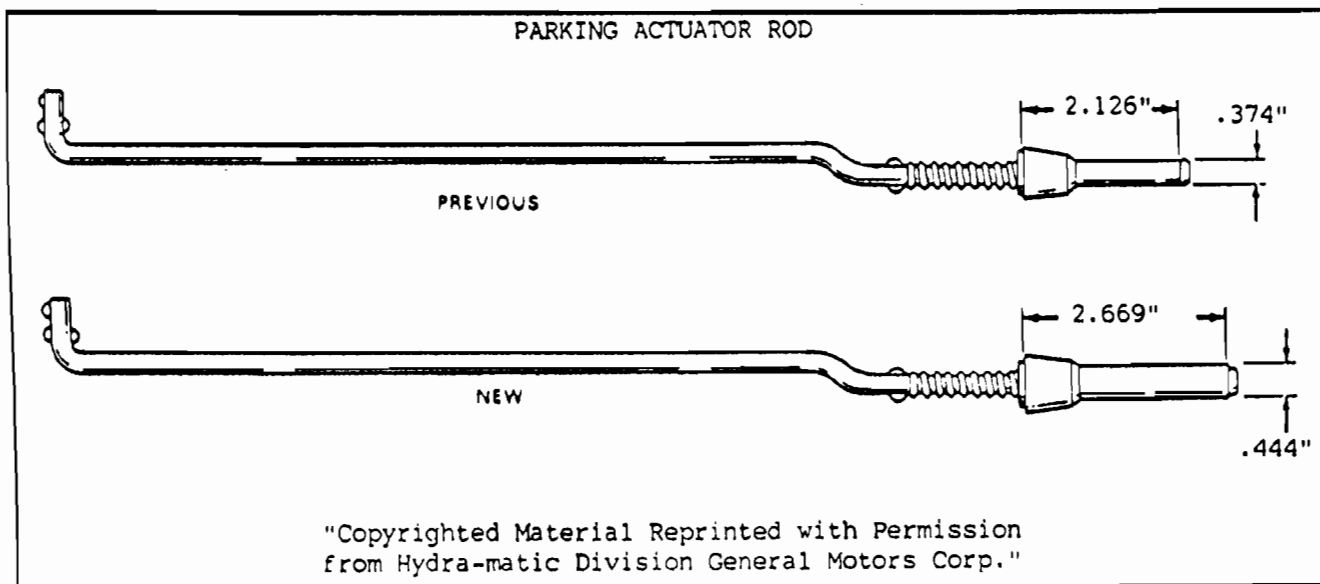

Figure 40
- (4) PARKING ACTUATOR ROD - The "Bullet" on the park rod is now .070" larger in diameter, and the length increased by .543" (See Figure 40).